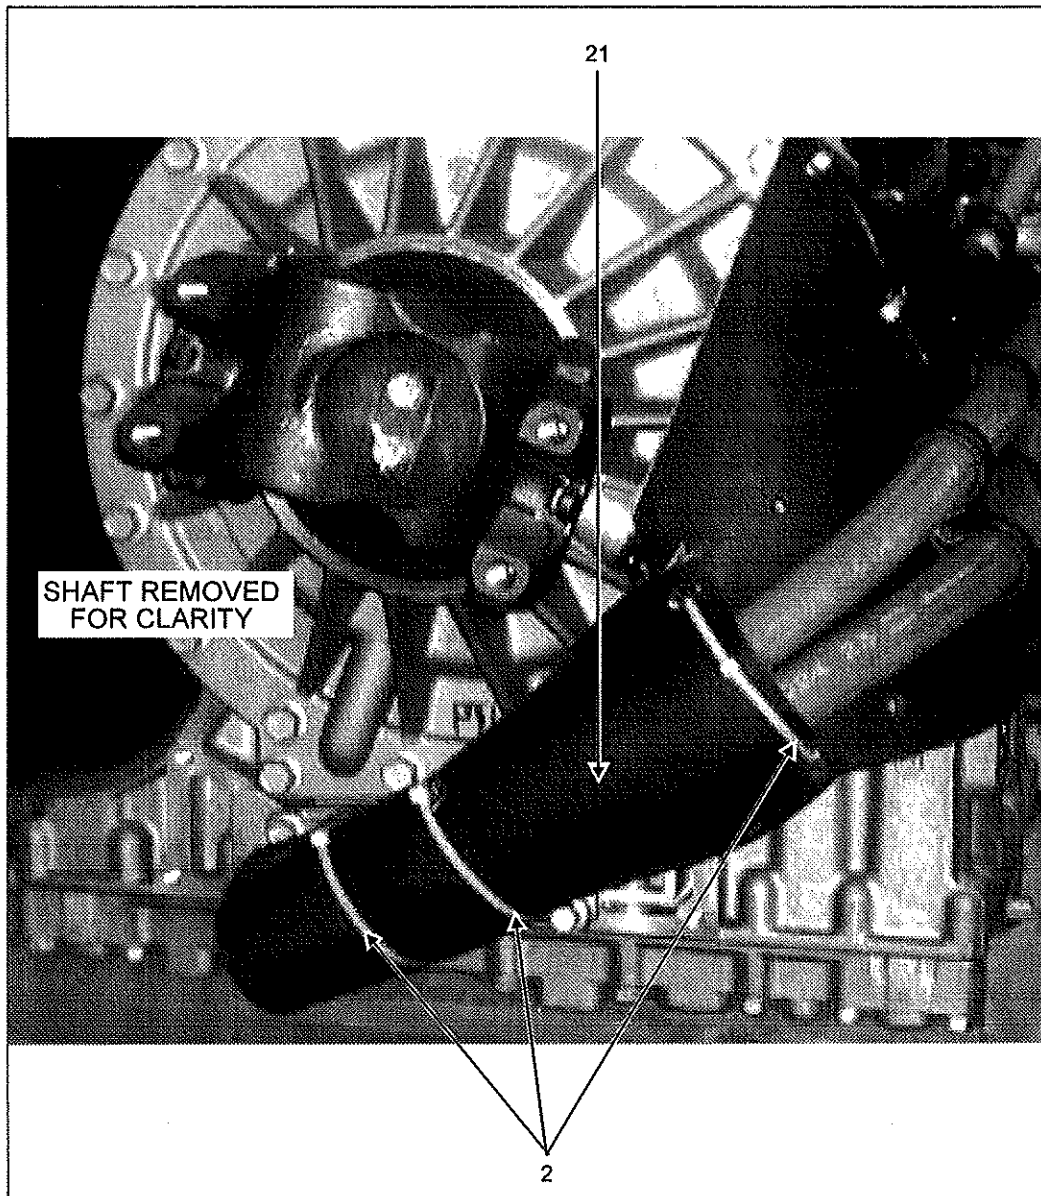

FIGURE 13
28. Position shield (21) over the section of hydraulic hoses located at rear end of transmission then secure with 3 cable ties (2) (Figure 13).